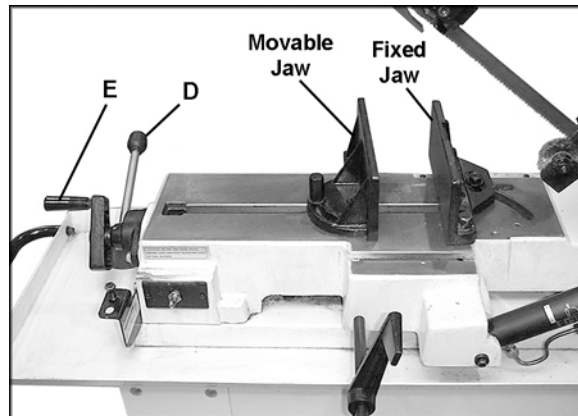

Figure 11
2. The vise has a quick-release feature which allows fast positioning of the movable jaw against the workpiece and then a final tightening with the handle. Lift up on the quick release lever (D, Figure 11), then push the movable jaw by hand until it contacts the workpiece.
3. Push down the quick release lever (D, Figure 11).
4. Turn the lead screw handle (E, Figure 11) clockwise to continue the tightening process of the movable jaw until the workpiece is securely clamped.